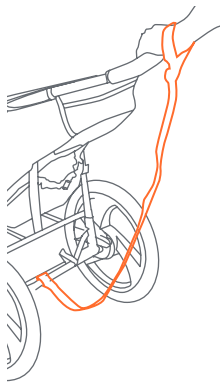
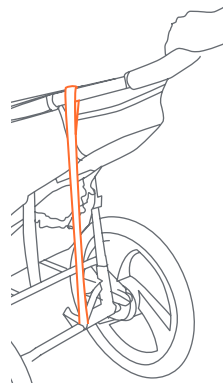

Fig. 16a
Fig. 16b
- **SAFETY WRIST STRAP:** Always connect the safety strap to either wrist when jogging. This strap will keep the stroller from rolling away in the event that you trip while running (Fig. 16a). The safety strap must remain connected to the rear lower frame cross member at all times. This location is intended to prevent the stroller being tipped backward in the event that you do fall to the ground. The safety strap includes a hook and loop attachment for storage, on the left side of the stroller, when not in use (Fig. 16b).